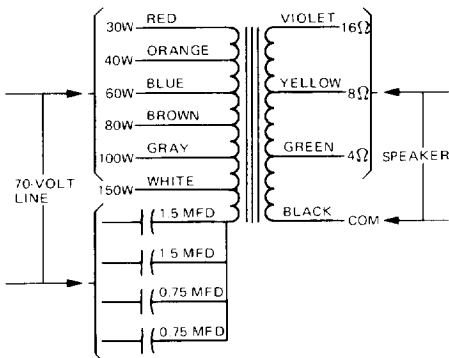

Figure 3. Altec 15480 Transformer Wiring
8. Connect transformer output (or power amplifier output) leads to driver. Be sure to observe proper polarity and correct output impedance of transformer or power amplifier. Figures 3 and 4 illustrate output impedance of Altec 15480 and 15065 transformers. Table II shows wiring connections. Driver impedances are as follows:
3. Insert cable (2-conductor type SV or equal) through connector and gland, and connect to selected 70-volt line wires (see Figure 3 or 4).
4. Connect correct transformer leads to driver leads, using wire nuts. Figures 3 and 4 illustrate impedances and power ratings of Altec 15480 and 15065 transformers.